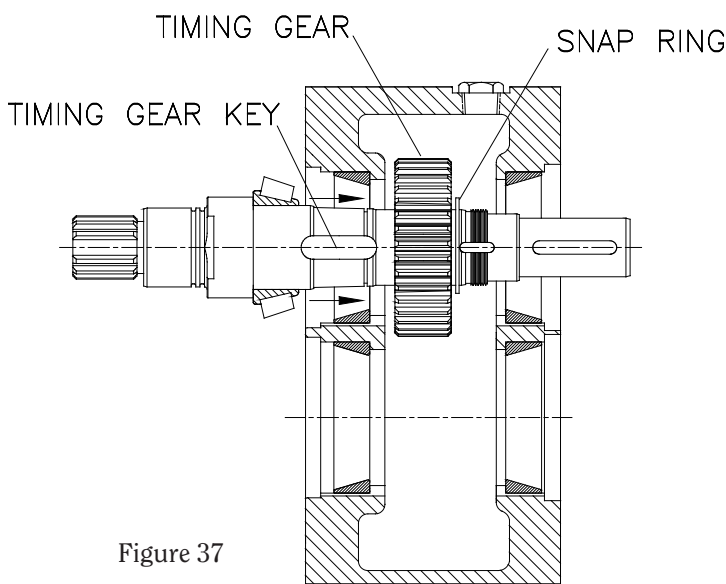

Figure 37
e) Install the gear snap ring, to secure the gear to the pump shaft, with the straight snap ring pliers (Figure 37).